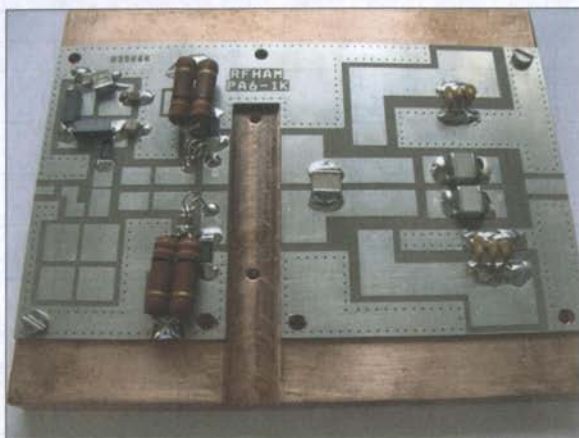

Fig. 8
- 2) Mount SMD components and power resistors. See fig. 8.